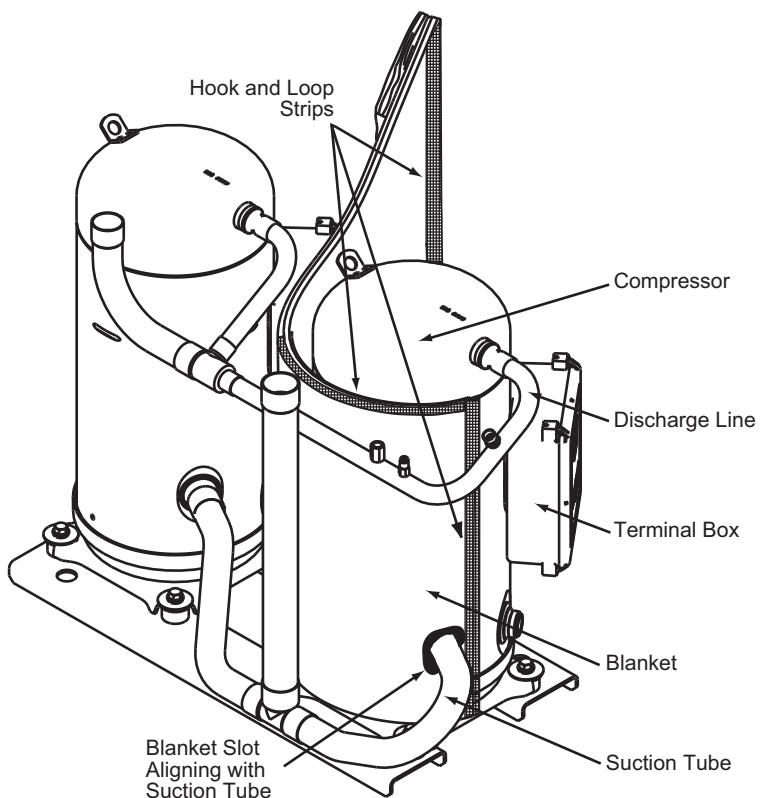

Fig. 3 — Align Blanket Slots with Suction Tube for Single Compressors
2. Wrap the sound blanket around the compressor in clockwise direction. See Fig. 3.
3. Align the slots in the blanket with the suction tube on the compressor. See Fig. 3.
4. Secure the blanket near suction tube with the hook and loop strips. See Fig. 3.